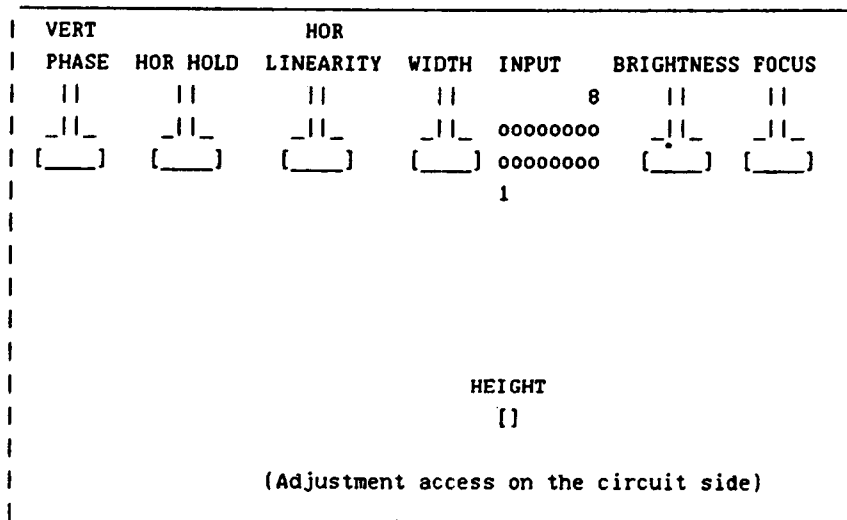

Figure 5-3. Display Adjustments Locations
- e. Adjust BRIGHTNESS control pot to minimum (full counter-clockwise). See Figure 5-3 for the display adjustment locations.